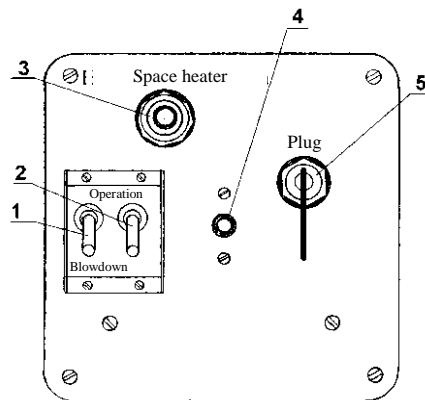

Fig. 16 Heater panel board
4.12.2.3 Blow down the boiler gas duct– run the pump set for 15–20 seconds by setting motor switch 1 (Fig. 16) into the “Operation” position.
4.12.2.4 Press electrical heater button 3 (Fig. 16) and hold it in the ON state depending upon the ambient temperature according to Table 2.